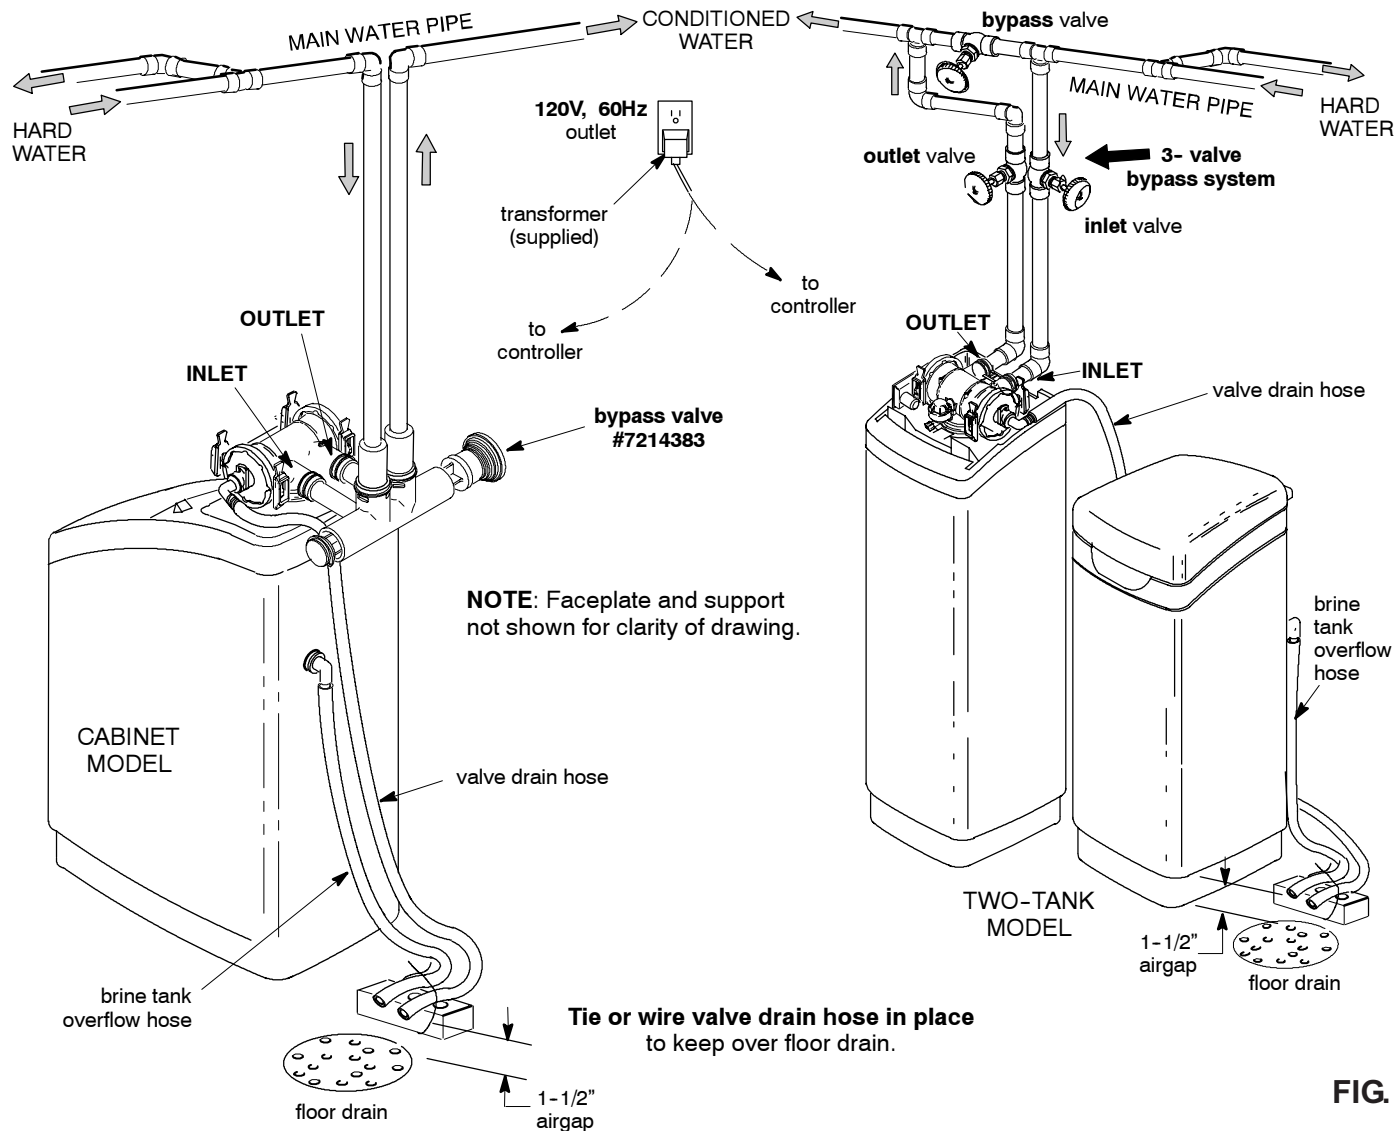

FIG. 1
If installing a 3-valve bypass system, plumb as needed using Figure 1 as a guide. When installing sweat copper, be sure to use lead-free solder and flux, required by federal and state codes. Use pipe joint compound on outside pipe threads.
The house cold water pipe (metal only) is often used as a ground for the house electrical system. The 3-valve bypass type of installation, shown in Figure 1, will maintain ground continuity. If you use the plastic bypass, continuity is broken. To restore the ground, do either step **8a** or **8b** following.
- c. Run the hose to the floor drain, and as typically shown in Figure 1, tie or wire the end to a brick or other heavy object. This will prevent "whipping" during recharges. Be sure to provide a 1-1/2" minimum air gap, to prevent possible sewer water backup.